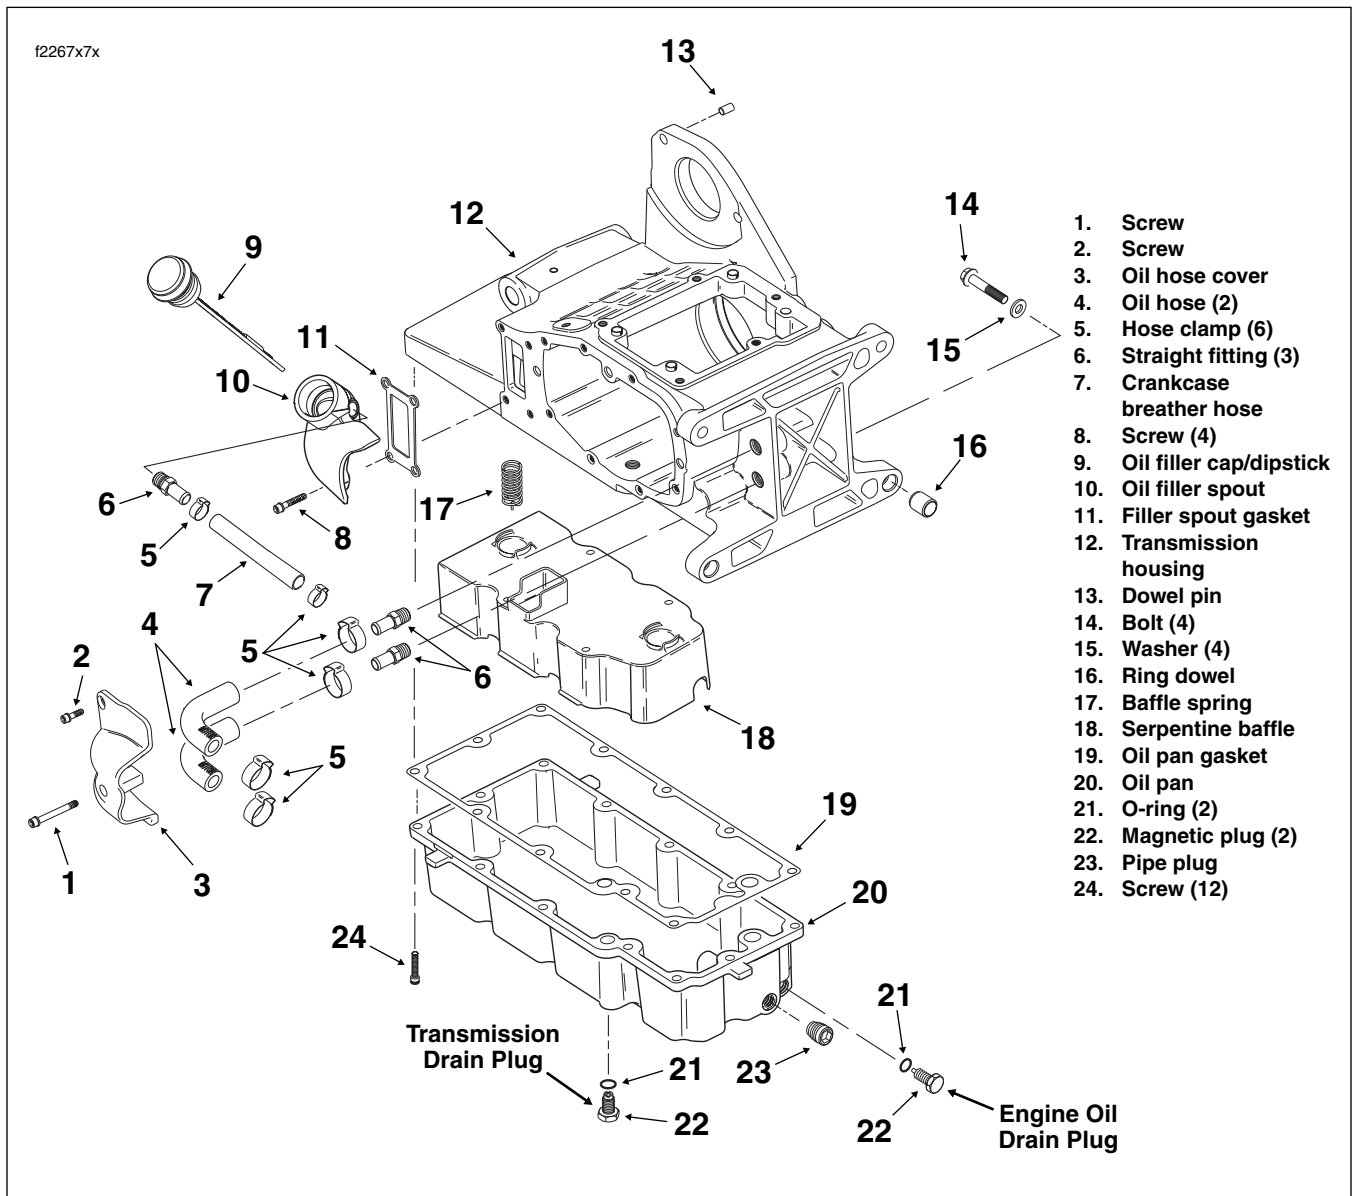

Figure 7-49. Transmission Case and Oil Pan
1. See Figure 7-49. Remove both the engine oil and transmission lubricant drain plugs from the oil pan. Drain the fluids into suitable containers.
6. Remove two allen head socket screws to release oil hose cover. See Figure 7-49.
3. Slide **new** clamps onto free ends of oil supply and return hoses. See Figure 7-49. Install hoses onto transmission fittings. Crimp clamps using the Hose Clamp Pliers (HD-41137).